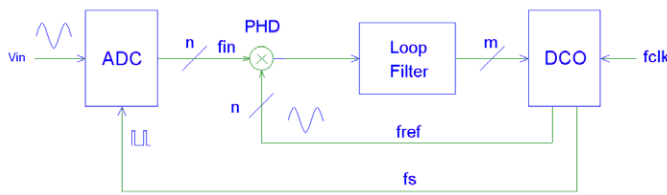

Figure 1. Software PLL structure
The basic SPLL structure consists of three blocks: Phase detector (PHD), Loop filter (LF), and Digitally-controlled oscillator (DCO) (Figure 1). The input signal V_{in} is processed in digital form: the PHD is a multiplier – its output, the product of two signals: the input sine wave (f_{in}), and the DCO sine output (f_{ref}). Sine wave mixing is preferable when low jitter is a must.